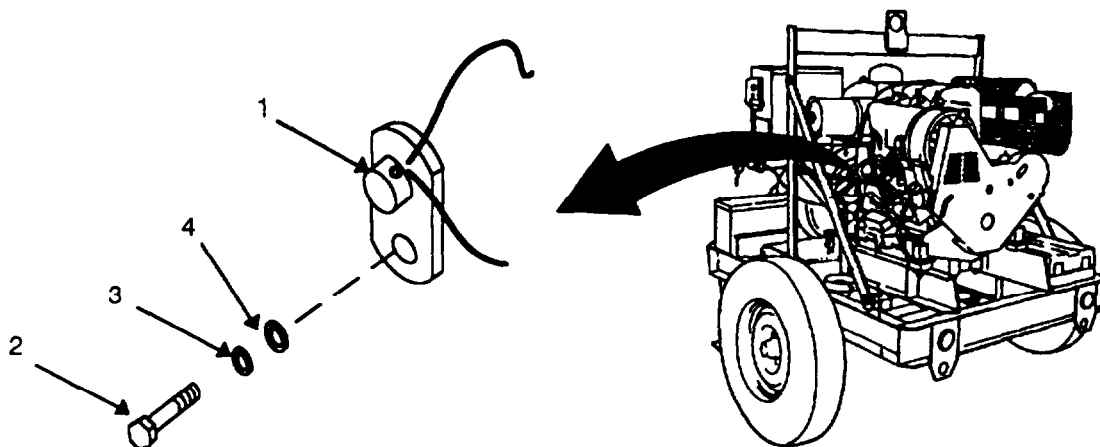

Figure 4-6.2. Starting Aid Temperature Switch (Model 350 PAWN).
4.10.3.5.1. Removal. (Refer to figure 4-6.2)
- a. Tag and disconnect wire between cold start solenoid valve assembly and temperature switch (1).
- b. Tag and disconnect wire between temperature switch (1) and starter solenoid.
- c. Remove screw (2), lockwasher (3), flat washer (4) and switch (1).
4.10.3.5.2. Installation. (Refer to figure 4-6.2)
- a. Position temperature switch (1) on side of engine and secure with flat washer (4), lockwasher (3) and screw (2).